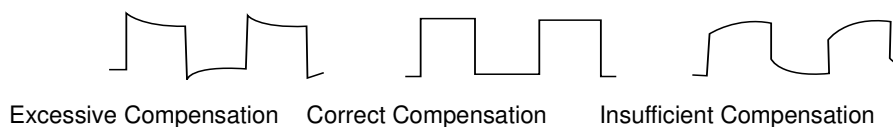

Figure 4-2 Compensating Calibration of Probe
- ① Set the attenuation coefficient in the probe menu and the switch on the probe to 10x, and connect the probe to CH1. Make sure the probe's connector is properly connected with the oscilloscope. Connect the probe's main clip and ground clip to the oscilloscope's compensating signal and ground terminal respectively. Open CH1 and press the AUTO button.
- ② View displayed waveforms, as shown in Figure 4-2.